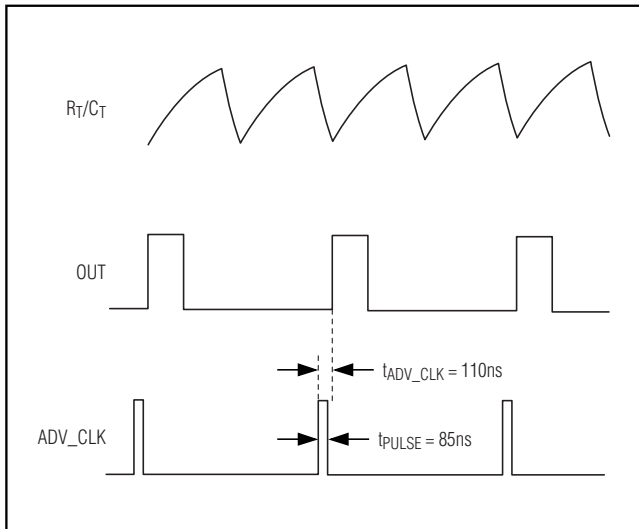
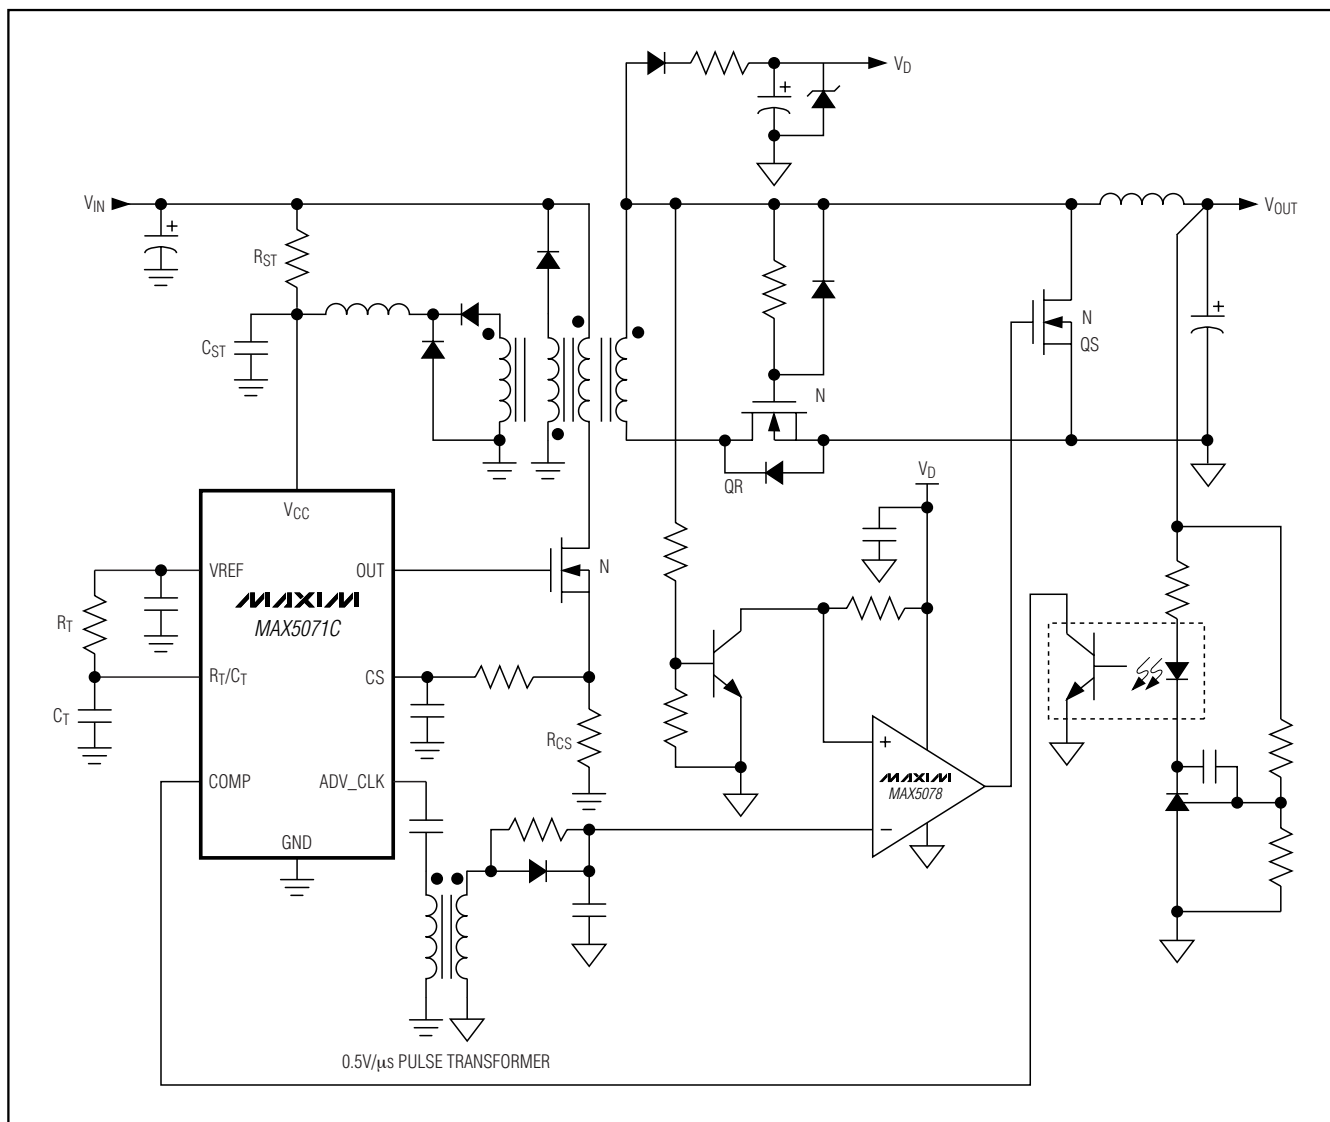

Figure 4. ADV\_CLK
Figure 8. MAX5071C Typical Application Circuit (Isolated Forward with Secondary-Side Synchronous Rectification)
| —                     | 2        | ADV_CLK                        | ADV_CLK is an 85ns clock output pulse preceding the rising edge of OUT (see Figure 4). Use the pulse to drive the secondary-side synchronous rectifiers through a pulse transformer or an optocoupler (see Figure 8). |
ADV\_CLK is an advanced pulse output provided to facilitate the easy implementation of secondary-side synchronous rectification using the MAX5071C. The ADV\_CLK pulse width is 85ns (typically) with its rising edge leading the rising edge of OUT by 110ns. Use this leading pulse to turn off the secondary-side synchronous-rectifier MOSFET (QS) before the voltage appears on the secondary (see Figure 8). Turning off the secondary-side synchronous MOSFET earlier avoids the shorting of the secondary in the forward converter. The ADV\_CLK pulse can be propagated to the secondary side using a pulse transformer or high-speed optocoupler. The 85ns pulse, with 3V drive voltage (10mA source), significantly reduces the volt-second requirement of the pulse transformer and the advanced pulse alleviates the need for a high-speed optocoupler.